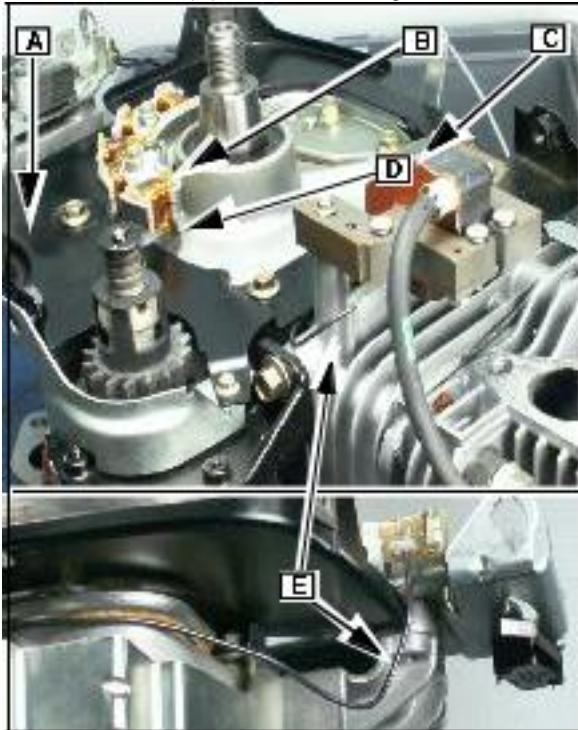

Fig. 27
Position the back plate ([A] Fig. 27) and loosely start the mounting screws. Mount the alternator (B) and the ignition coil (C).
Route the alternator wire (D) and the ignition coil wire (E) as shown in Fig. 27.